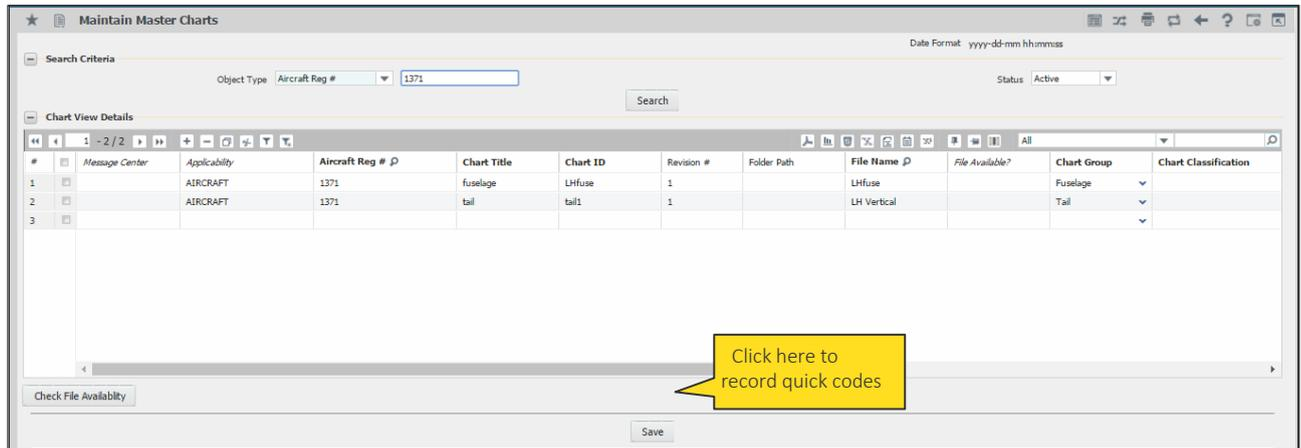

Figure 3.2 Maintaining master charts
1. Select the **Maintain Master Charts** activity under the **Structural Damage Report** business component. The **Maintain Master Charts** screen appears. See Figure 3.2